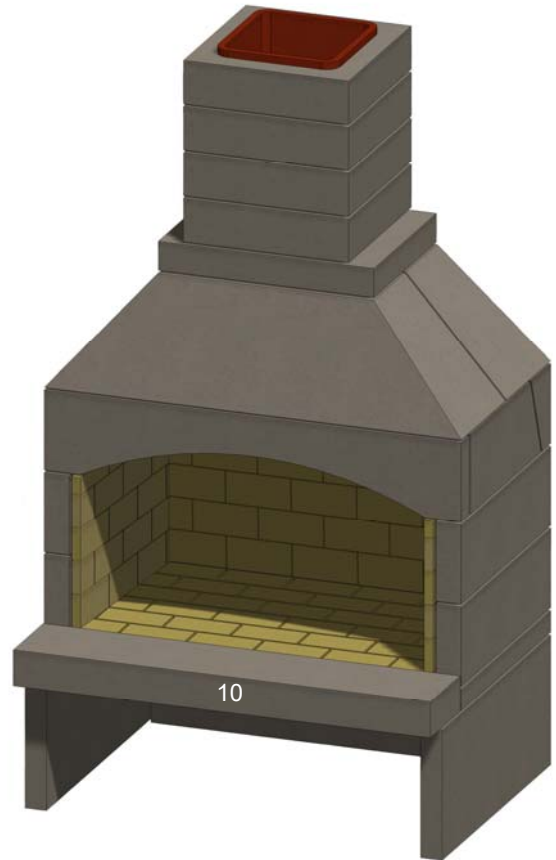

Figure 25. Hearth
Q. Install the hearth piece (10) if using this component, and any hearth extension. See Figure 25.